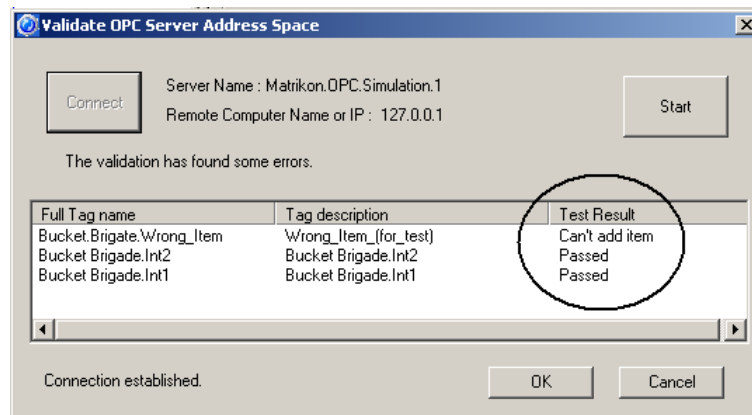

Fig 17 Validation check passed
4. The items are checked done after the other and the corresponding tag names and descriptions appear in the list. On the right hand side, the “Test Result” column shows whether the test passed or failed (Fig 17).